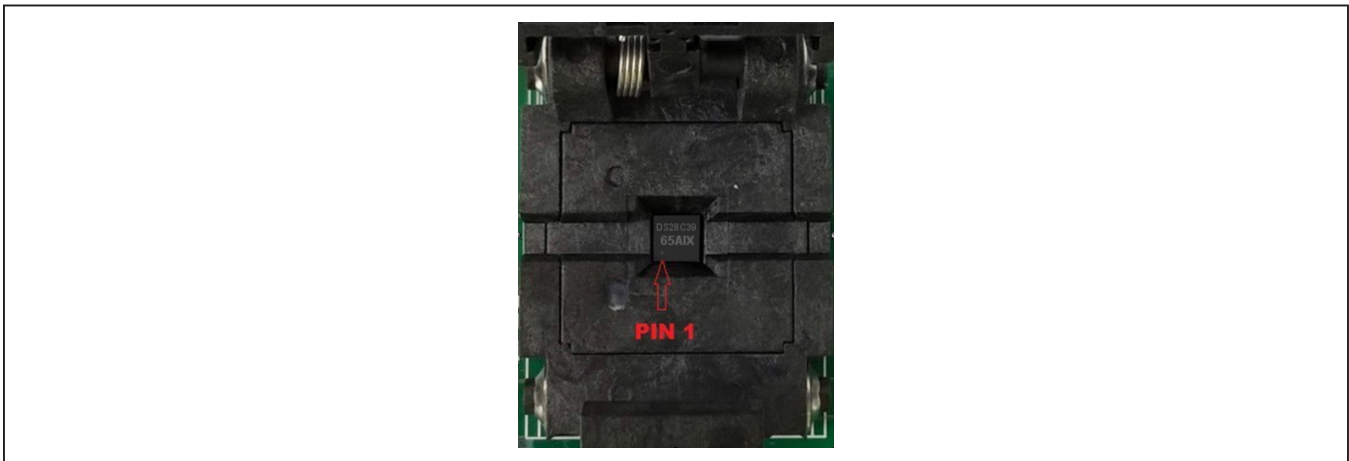

Figure 8. Orientation of the DS28C39 and DS2476 in the Burn-In Socket
- a) (Optional—Perform only if using the coprocessor): Open the DS9121AQ+ socket and insert a DS2476 into the cavity, as shown in Figure 8. **Note:** The plus (+) on the package must be be on the opposite side of the marker in the socket.
- b) Open the DS9121BQ+ socket and insert a DS28C39 into the cavity, per the same orientation shown in Figure 8.